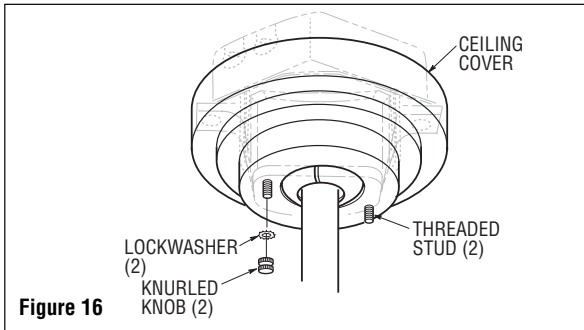

Figure 16
4. Screw the two 1-1/4" threaded studs (supplied) into the tapped holes in the hanger bracket (Figure 16).
5. Lift the ceiling cover up to the threaded studs and turn until the studs protrude through the holes in the ceiling cover (Figure 16).
6. Secure the ceiling cover in place by sliding lockwashers (supplied) over the threaded studs and installing the two knurled knobs (supplied). (Figure 16). Tighten the knurled knobs securely until the ceiling cover fits snugly against the ceiling.